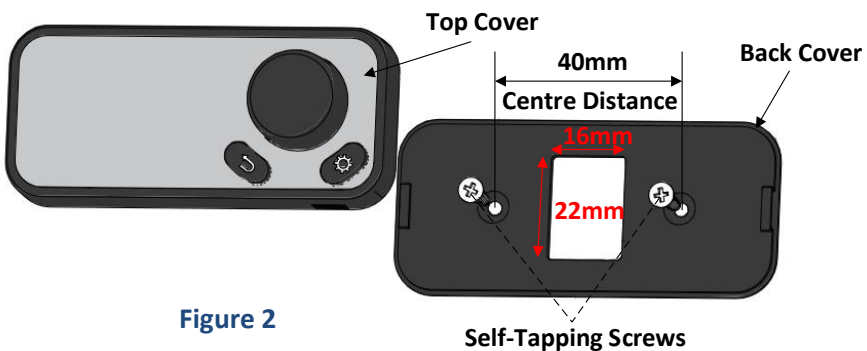
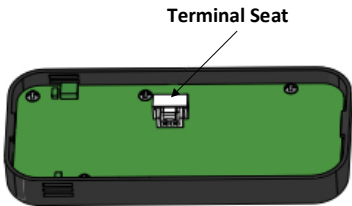

Figure 2
Figure 3
2. Insert the tapping screw into the mounting surface as shown in Figure 2 and fix the back cover on the mounting surface.
3. Insert one end of the control switch lead wire into the PCB board's terminal seat as shown in Figure 3, and the other end through the back cover and installation opening as shown in Figure 2.